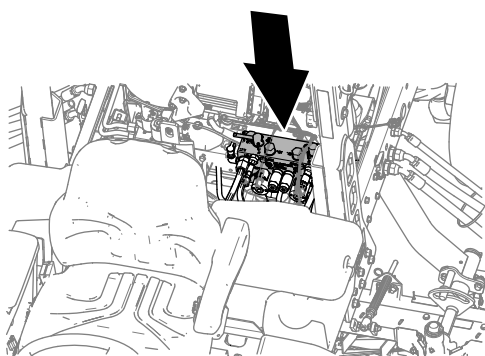

Figure 156
- Rotate the front, rear, or both backlap levers to the R (backlap) position (Figure 156).